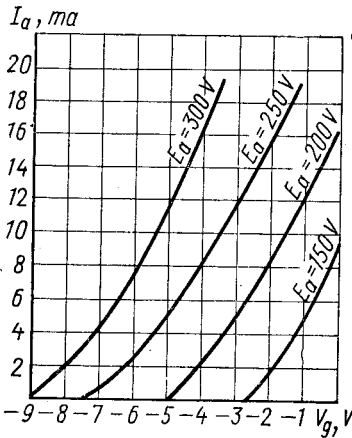

Fig. 4. Plate current-grid voltages static characteristics of 6J5
6. A grid family of characteristic curves for a type 6J5 triode is shown in Fig. 4. In these curves the plate current I_a has been plotted as a function of the grid voltage E_g for various constant E_a values of the plate voltage. Note that each curve intersects the grid-voltage axis at a specific point that indicates the value of the negative grid voltage required to stop the plate current at the fixed value of the applied plate potential. This is the cut-off bias. As the plate voltage is increased, it may be seen that the negative bias required to cut off the plate current also increases.
7. It is also evident that each of the graphs in Fig. 4 is quite curved in the lower portion, near cut-off, while it is almost a straight line in the central and upper portions. Triodes are almost always operated in the straight-line, linear portions of their characteristics and rarely in the